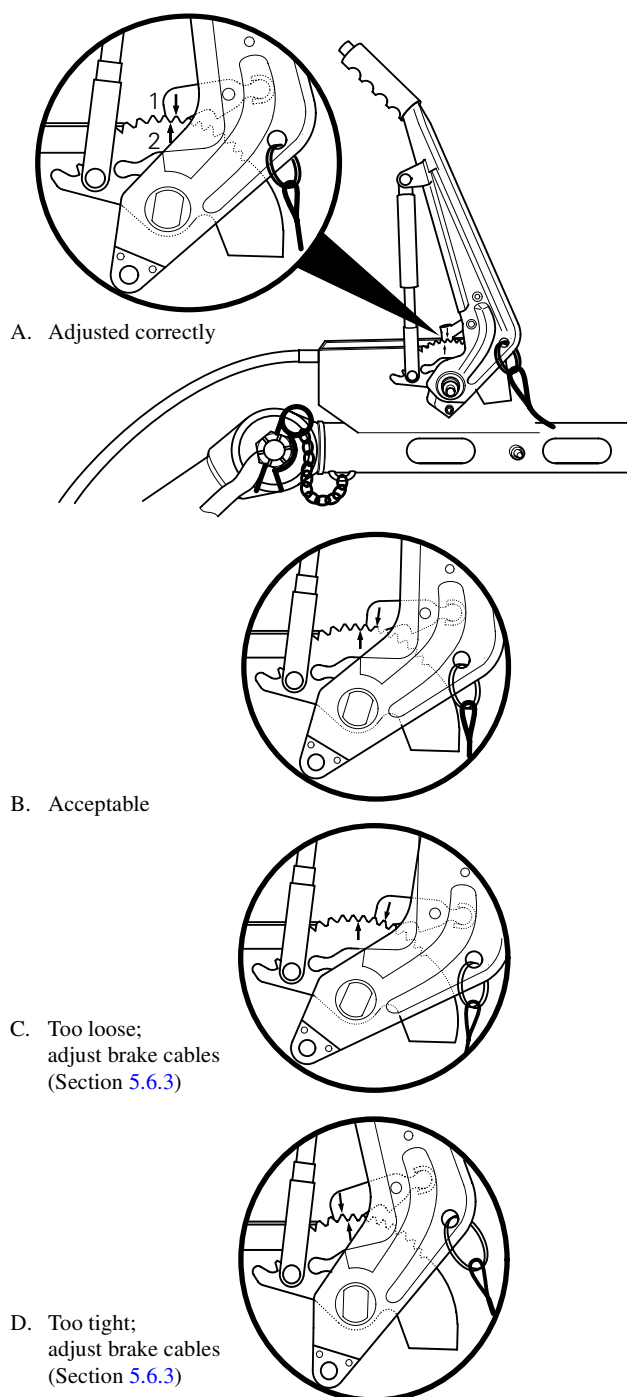

Fig. 5.6 Correct and wrong position of markings
5. Check the position of the arrow marking "1" at the catch lock in combination with the arrow marking "2" at the toothed sector, according to Fig. 5.6 A,B,C,D.